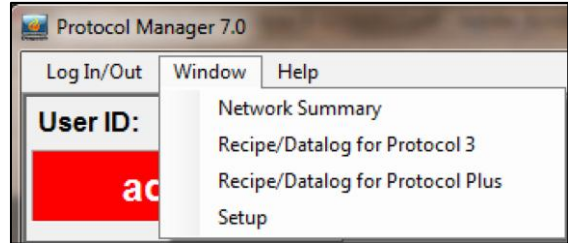
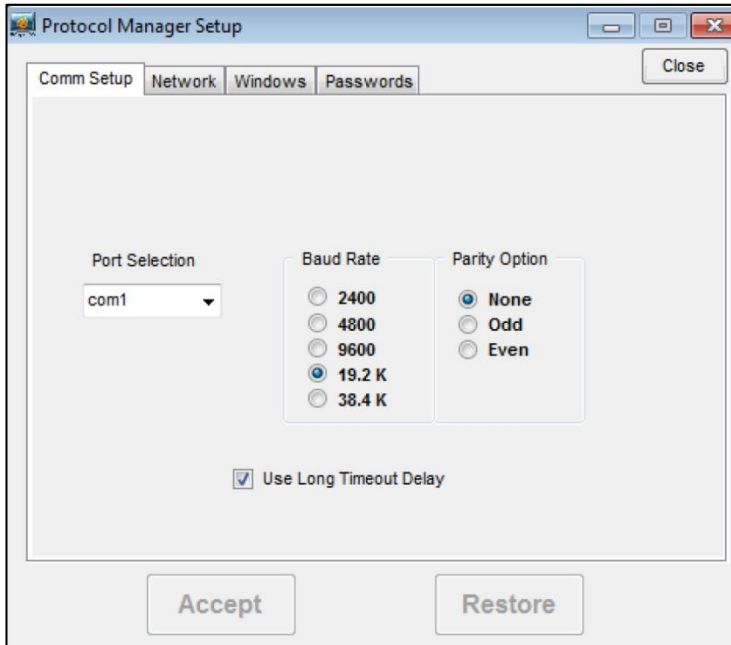

Figure 35. Window Pull Down Menu.
Figure 36. Comm Setup Typical Settings.
2. Click on **Window** and **Setup** (Figure 35) to get to **Comm Setup** (Figure 36).